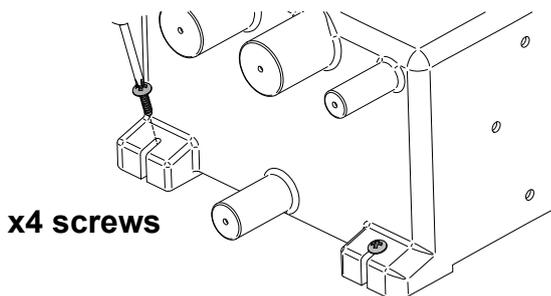
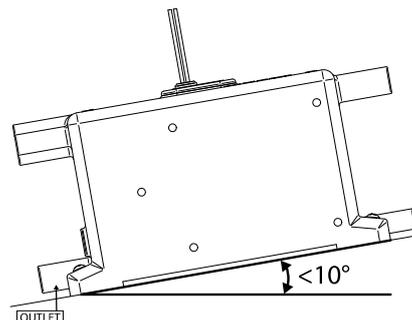

Figure 5 Securing The Tank
Figure 6 Maximum Possible Angle of Installation
**Step 2:** The tank **must be** secured using 4 appropriate screws, through the feet of the tank as shown in Figure 5. **NOTE:** The angle of the tank **must not** exceed 10° (Figure 6). **NOTE: Do not screw directly to the hull – MUST** be mounted on a bulkhead or an additional board.